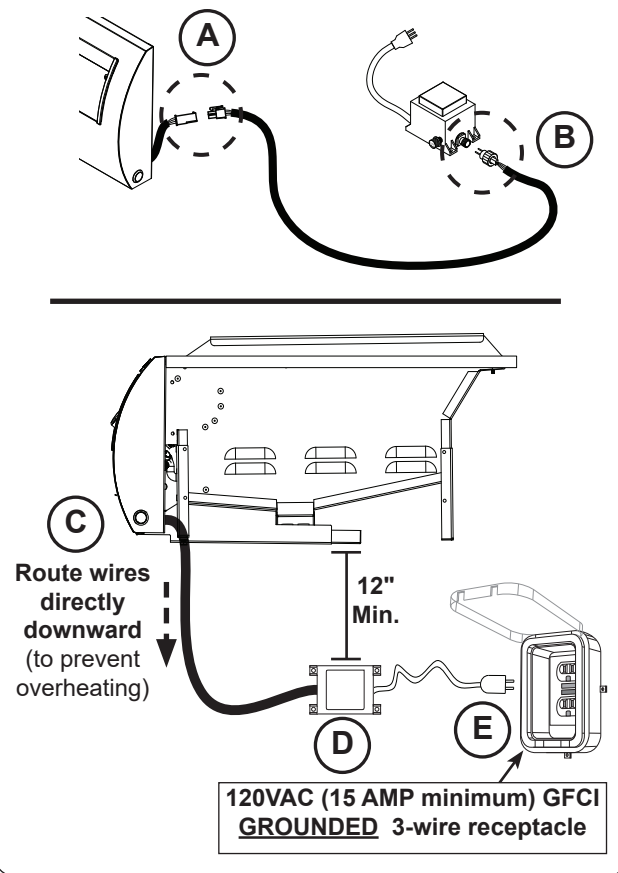

Fig. 29-1 Electrical installation
1. Locate the wire harness on the right side of the control panel. Cut the cable tie, and then connect it to the supplied wire harness extension. See Fig. 29-1, A.
2. Connect the wire harness extension to the power supply by inserting, then screwing on the cap (see Fig. 29-1, B).
3. Route the wire harness extension below the control panel and directly downward. This will prevent overheating. **DO NOT** route the wire extension below the griddle. See Fig. 29-1, C.
4. Mount the power supply to the inside of the enclosure using appropriate hardware for your enclosure. See Fig. 29-1, D. **The power supply MUST BE:**
5. Connect the cord coming from the power supply to a **120VAC (15 AMP minimum) GFCI GROUNDED three-wire receptacle** (see Fig. 29-1, E). The GFCI receptacle must be a WEATHER-PROOF IN-USE COVERED RECEPTACLE.